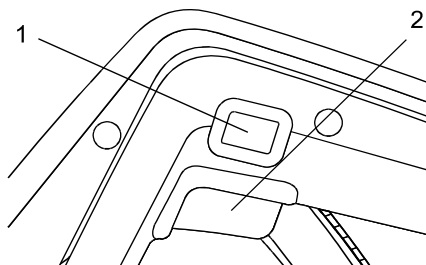

Fig. 7
The lock-off button (1) is a safety device designed to reduce the possibility of accidentally starting the saw (Fig. 7). This button must be depressed before the trigger switch (2) can be depressed.